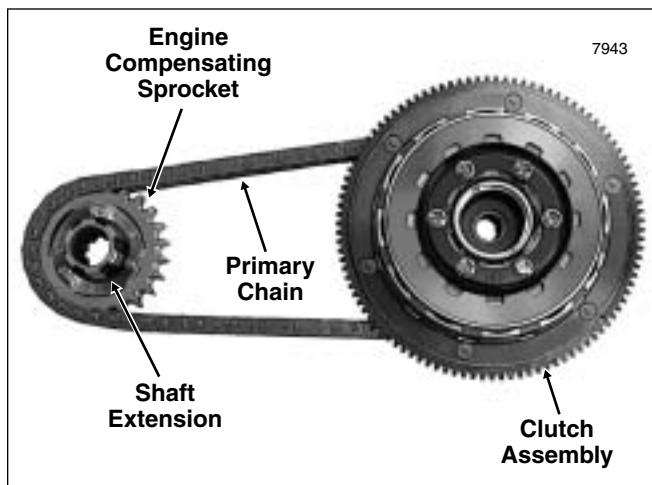

Figure 6-21. Remove Clutch Assembly, Primary Chain, Engine Compensating Sprocket and Shaft Extension
15. Remove clutch, primary chain, compensating sprocket and shaft extension as a single assembly. See Figure 6-21.